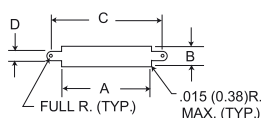
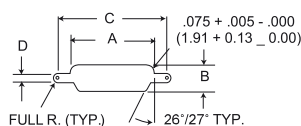

Figure 1
Figure 3
2. Front mounting is preferred. However, when rear mounting is necessary, use figure 3 for dimensions.
5. Front mounting (Figure 1) and rear mounting (Figure 3) accommodate #2-56 screws.